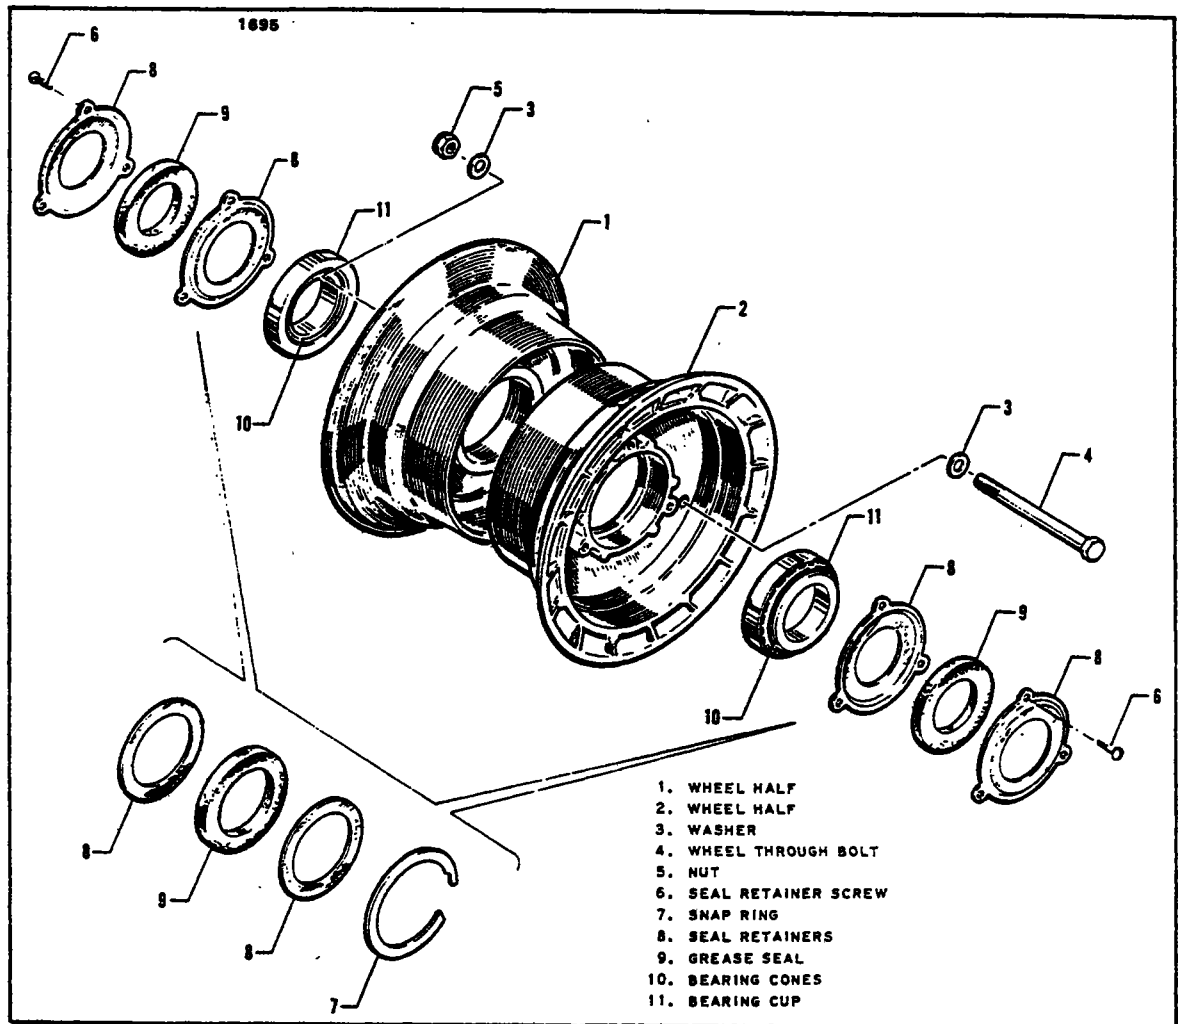
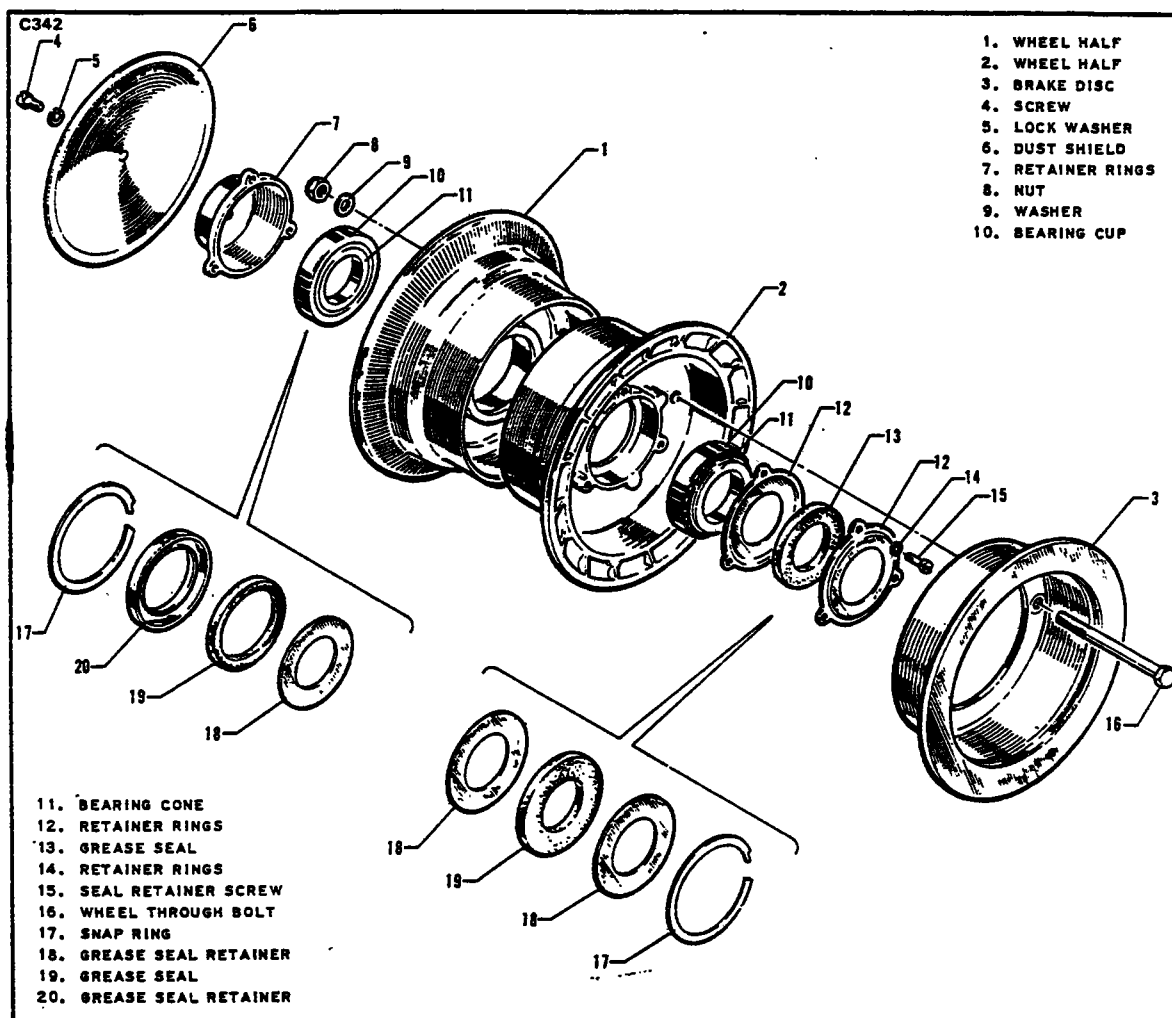

Figure 7-8. Nose Wheel Assembly
Figure 7-9. Main Wheel Assembly
**7-22. REMOVAL AND DISASSEMBLY OF NOSE WHEEL. (Refer to Figure 7-8.)**
d. The wheel halves (1 and 2) may be separated by first deflating the tire. With the tire sufficiently deflated, remove the wheel through bolts (4). Pull the wheel halves from the tire by removing the wheel half opposite the valve stem first and then the other half.
e. The wheel bearing assemblies (10 and 11) may be removed from each wheel half by first removing the three screws (6) or snap ring (7) which hold in the grease seal (9) and seal retainers (8), and then the bearing cones (10). The bearing cup (11) should be removed by tapping out evenly from the inside.
**7-24. ASSEMBLY AND INSTALLATION OF NOSE WHEEL. (Refer to Figure 7-8.)**
- a. Ascertain that the bearing cup (11) for each wheel half (1 and 2) is properly installed. Install the tire with tube on the wheel half with the valve stem hole and then join the two wheel halves. Install the through bolts (4) with the washers (3) and nuts (5) to the valve stem side, torque nuts to 90 inch pounds and inflate tire. (Refer to Table II-1, Section II for tire pressure.)
- b. Lubricate the bearing cones (10) and install the cones and grease seal assembly (8 and 9). Secure with the same three screws (6) or snap ring (7).
**7-25. REMOVAL AND DISASSEMBLY OF MAIN WHEEL. (Refer to Figure 7-9.)**
- d. The wheel halves (1 and 2) may be separated by first deflating the tire. With the tire deflated, remove the wheel through bolts (16). Pull the wheel halves from the tire by removing the inner half from the tire first, and then the outer half. The brake disc can be removed at this time.
e. The wheel bearing assemblies may be removed from each wheel half by first removing the retainer rings (7 or 12) or snap rings (17) that secure the grease seal retainers (18 or 20), and then the retainers, grease seals (13 or 19) and bearing cone (11). The bearing cups (10) should not be removed only for replacement and may be removed by tapping out evenly from the inside.
**7-27. ASSEMBLY AND INSTALLATION OF MAIN WHEEL. (Refer to Figure 7-9.)**
a. Ascertain that the bearing cup (10) for each wheel is properly installed. Install the tire with tube on the outer wheel half and then join the two wheel halves. Position the brake disc (3) in the inner wheel half and install the through bolts with the nuts on the valve stem side. Torque wheel nuts to 150 inch pounds and inflate tire. (Refer to Table II-I, Section II for tire pressure.)
b. Lubricate the bearing cones (11) and install the cones, grease seals (13 and 19) and seal retainer rings (18 or 20). Secure with retainer rings (14) or snap ring (17).